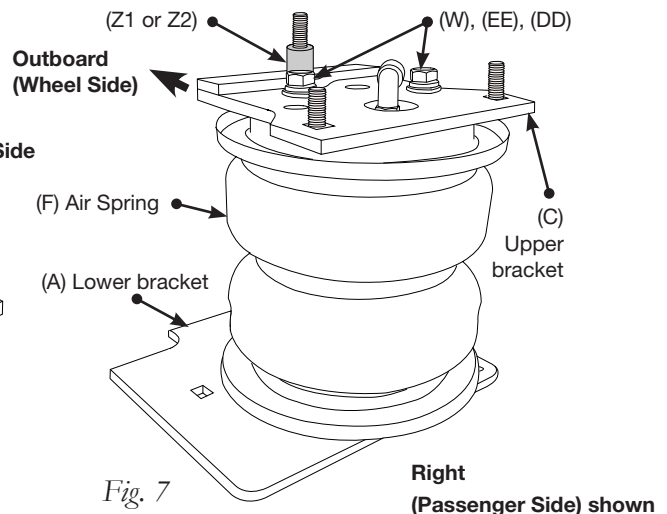

Fig. 7
The fitting on top of the air spring points inward (fig. 7).
6. Repeat the above process for the opposite side assembly (fig. 7).